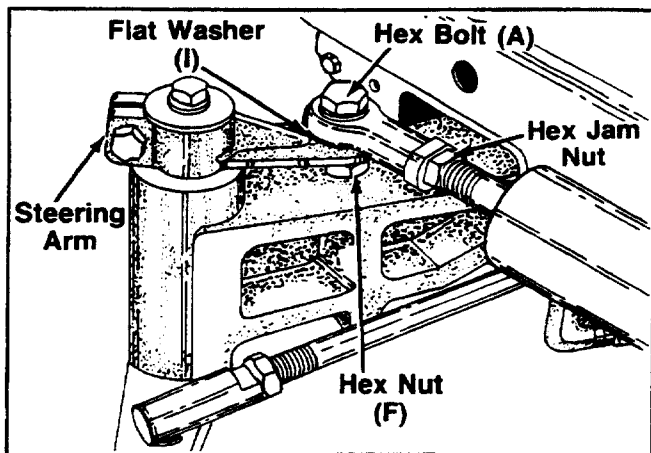

FIGURE 31.
35. Line up the front steering cylinder alignaball end with the front steering arm; thread the front alignaball in or out as required. Fasten the alignaball to the front steering arm, using hex bolt (A), flat washer (I) and hex nut (F). Tighten the hex jam nut to the front alignaball. See figure 31.